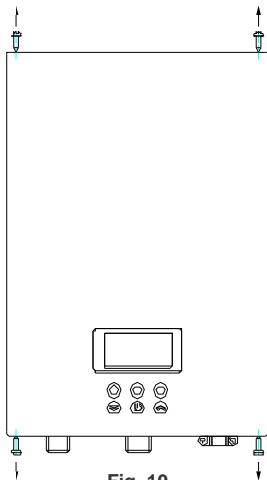
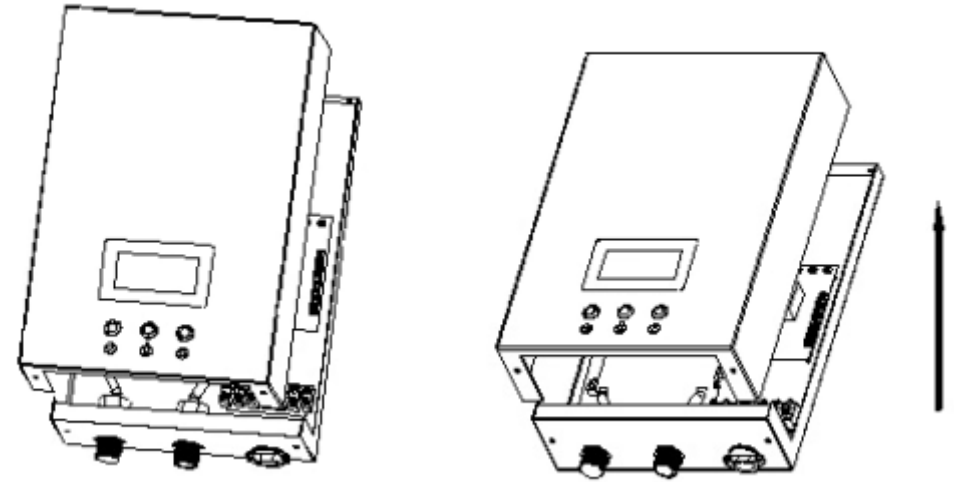

Fig. 10
Fig. 11
Remove (4) screws and washers (Fig 10) from the unit to free the front cover. Carefully lift the front cover off the unit a few inches. Disengage the plug connecting the front cover LCD panel to the body of the unit (Fig 11). Remove the cover completely.